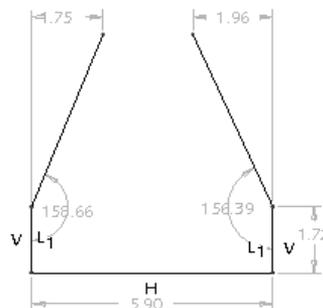
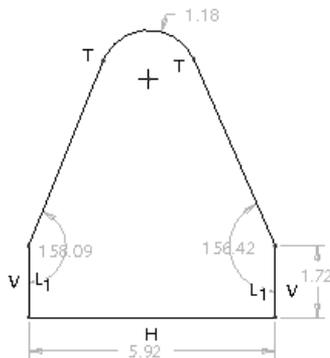

Figure 2-23 Partial sketch with weak dimensions
Figure 2-24 Sketch with arc
- d. Draw an arc and a circle, refer to Figures 2-24 and 2-25.
Figure 2-23 shows the lines that you have drawn. Notice that when you end the line creation by pressing the middle mouse button twice, all the constraints that you have applied become visible, refer to Figure 2-23. Now, you need to draw the arc and the circle.
The horizontal constraint **H** and the vertical constraint **V** appear in blue color. The blue color of the constraint indicates that the constraint is strong. This means you cannot change the orientation of the line until you delete the constraint applied to the line. The constraints displayed in light blue color indicates that they are weak constraints, refer to Figure 2-23.
4. As the tangent constraint appears, click to end the arc creation. You will notice that the tangent constraint with the symbol **T** appears at the endpoints of the arc, as shown in Figure 2-24. Press the middle mouse button to end the arc creation.
Note that in Figure 2-23, there are some weak dimensions that are not displayed in Figure 2-24. This is because weak dimensions get deleted without confirming their deletion. Hence, after drawing the arc, some weak dimensions get deleted automatically.